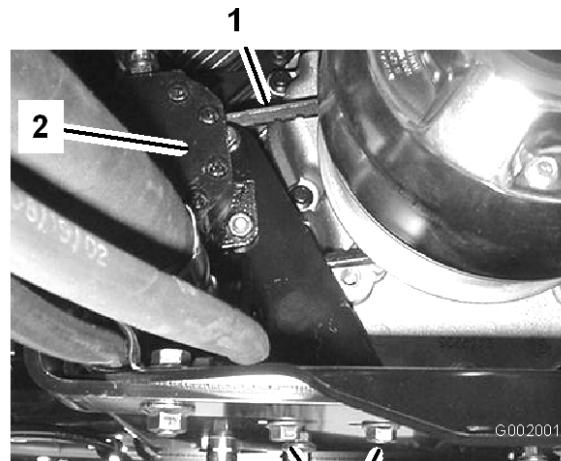

Figure 61
2. Loosen the steering pump mounting bolts (Figure 61).